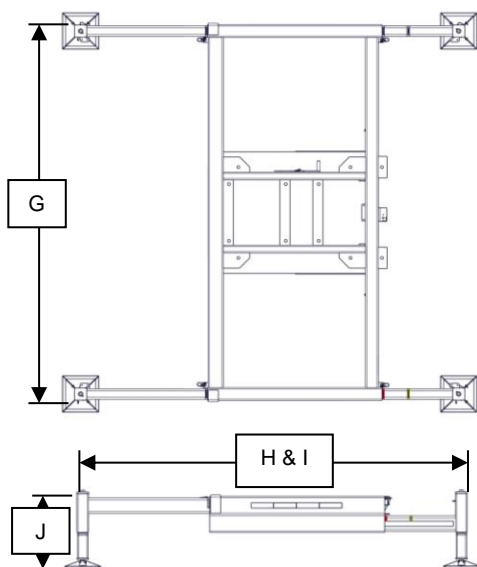

Figure 140 - Universal freestanding base dimensions
* The specified widths must take into account the limits imposed by the MINIMUM and MAXIMUM stickers mentioned in the notes below. Note: The permissible slope of the chassis is 0,5° MAXIMUM. Note: There are no « MINIMUM » stickers (see Figure 140). Note: The « MAXIMUM » stickers (see Figure 140) indicate the maximum opening of the outriggers.